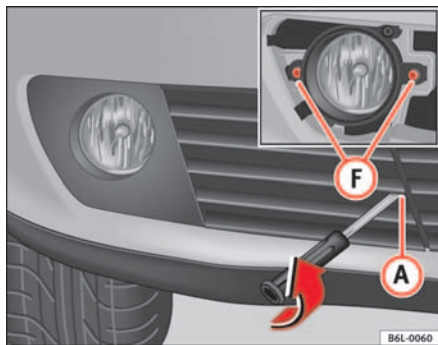

Fig. 148 Fog lights
- Undo the two fastening screws (F) ⇒ fig. 148 and when released unplug the connector
- Remove the grille, taking out the screw (A) ⇒ fig. 148, carefully pull the grille on the side of the screw and release the cover